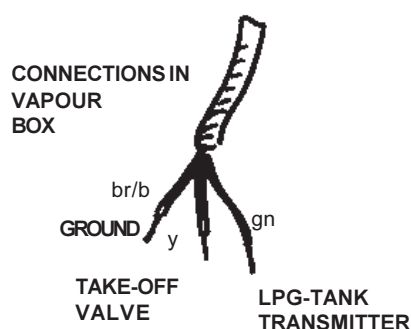

fig. 21.
16. Vapour box. Route the 3-core harness with the green, yellow and brown/black wire along with the LPG supply line towards the vapour box. Connect them to the solenoid (yellow), the tank transmitter (green) and ground (brown/black). See fig.21.